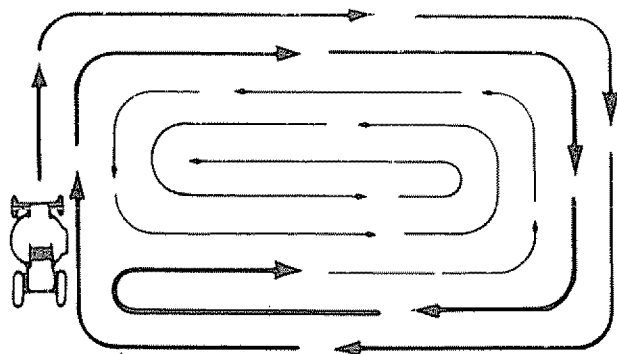

FIGURE 17
- c When mowing large areas (Fig 17), start by turning to the right so that the clippings will discharge away from shrubs fences driveways etc After one or two rounds mow in the opposite direction making left hand turns until finished